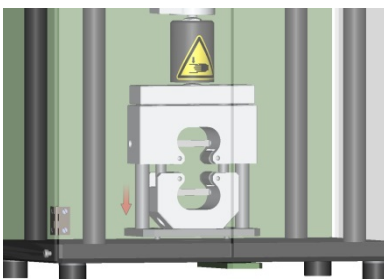

Figure 6.2.11
2. Align the Tensile Strength Attachment Base on the Minilab Base Plate (Figure 8.1, Item 4), ensuring that attachment cylinder pins are mounted in the corresponding holes on the machine base (see Figure 6.2.11).